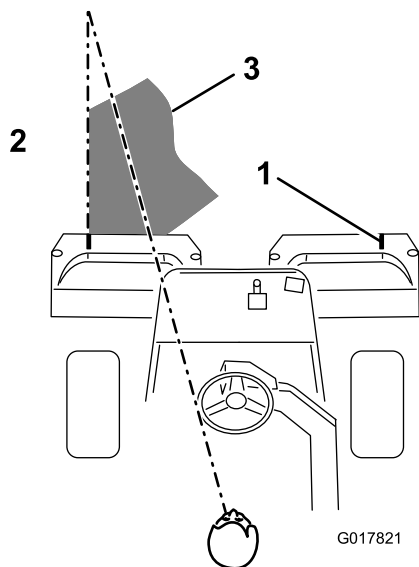

Figure 40
3. Overlap a minimal amount with the previous cut on return passes. To assist in maintaining a straight line across the green and keep the machine an equal distance from the edge of the previous cut, establish an imaginary sight line approximately 6 to 10 ft (1.8 to 3 m) ahead of the machine to the edge of the uncut portion of the green (Figure 40). Some find it useful to include the outer edge of the steering wheel as part of the sight line; i.e. keep the steering wheel edge aligned with a point that is always kept the same distance away from the front of the machine (Figure 40).